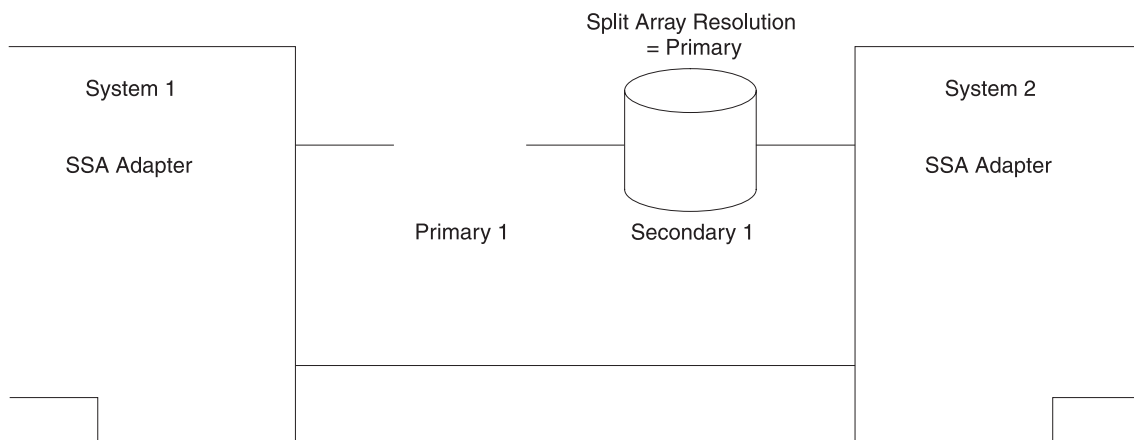

Figure 21. RAID-1 Disk Drive Failure
**Failure of a Primary Disk Drive in a Dual-Host System:** Figure 21 shows a dual-host system in which the primary disk drive of a RAID-1 array has failed.